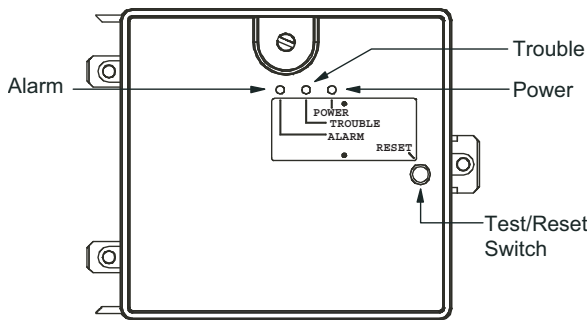

Fig. 60 — Controller Assembly
- The contacts on the controller's supervisory relay switch positions. (See Fig. 60.)